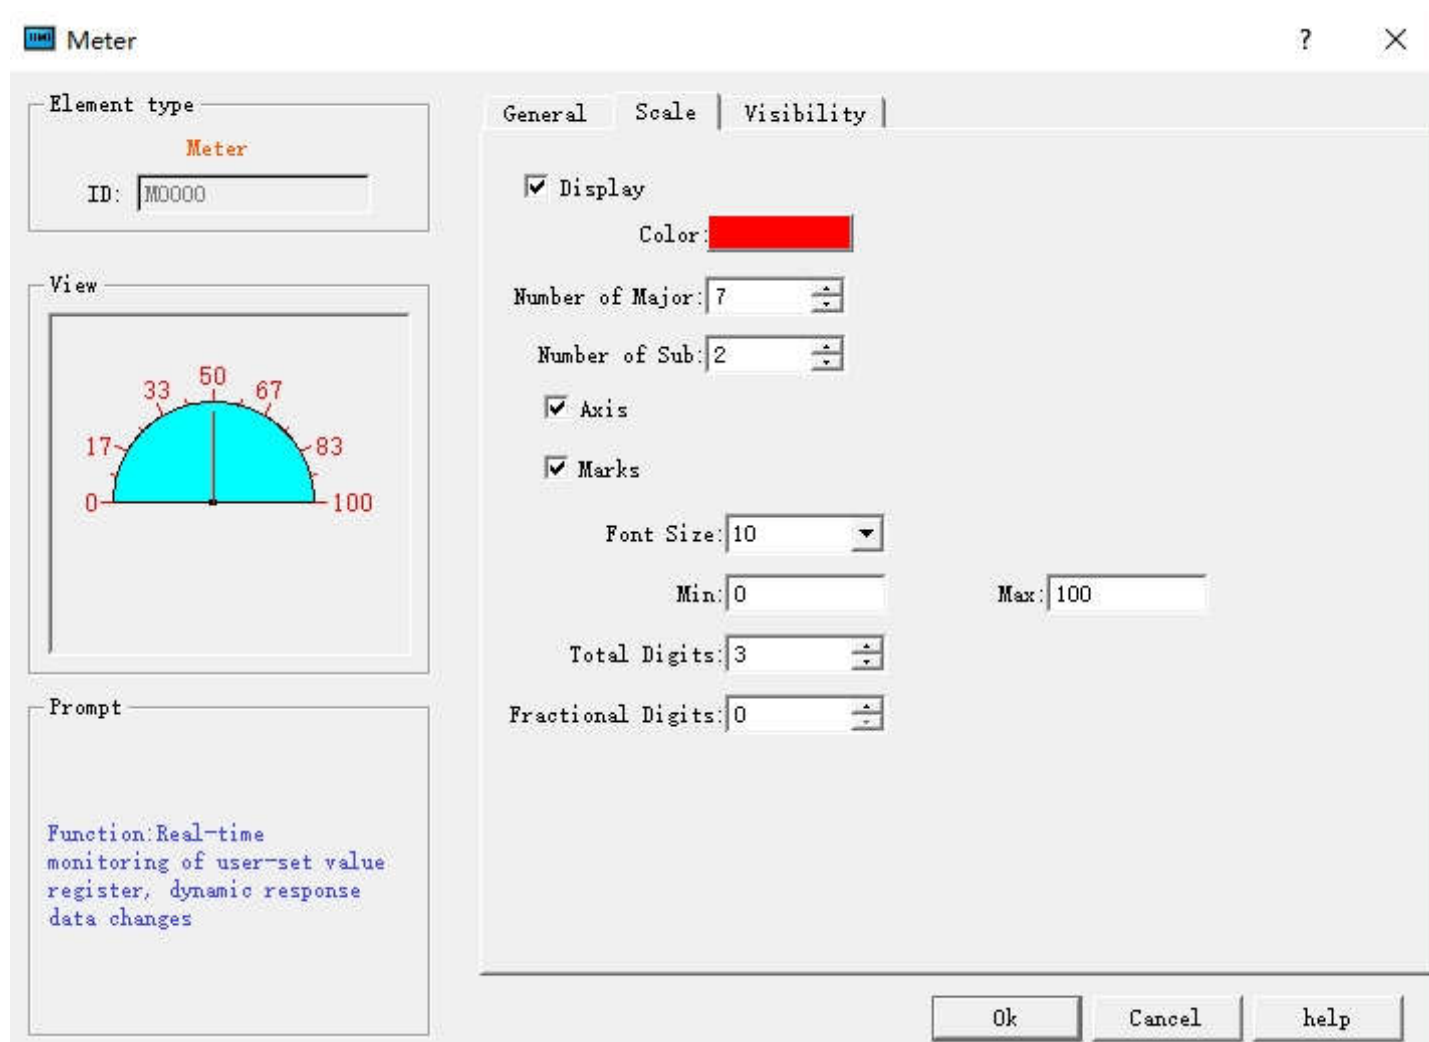

Figure 4-58 Scale tab of Meter
2. Click the Scale tab to set the scale properties, as shown in Figure 4-58: